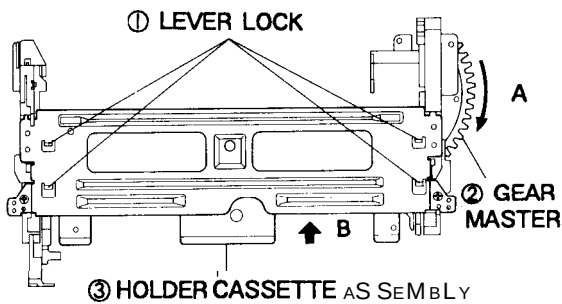

Fig. 66 How to operate the Housing Ass'y
- 1) Push four(4) Lever Locks ① of the housing ass'y Simultaneously. (Refer to Fig. 66)
- 2) Push the holder cassette ass'y @toward arrow "B" while turning the gear master ② toward arrow 'A'.
(Refer to Fig. 66)
- 3) Load the gear loading L, R ass'y ④, ⑤ to the middle position of guide rail by turning the gear master ② toward arrow "A". (Refer to Fig. 66, 67)